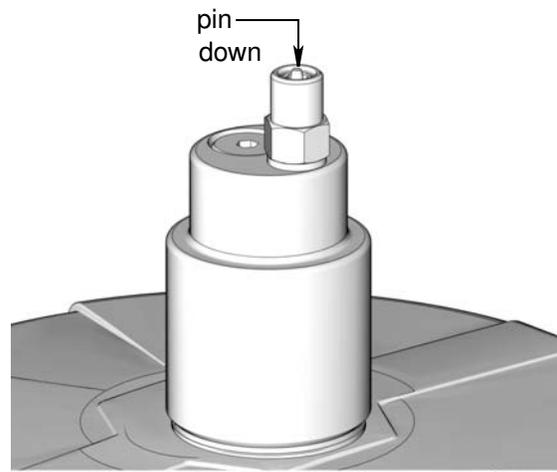

FIG. 25
1. Pull out and hold the Pressure Relief Knob (T) long enough to relieve line pressure between Fill Manifold (N) and Auto-Fill Shut Off Valve (B).
2. Verify the Auto-Fill Shut Off (B) pin is down, indicating it is reset (FIG. 25).